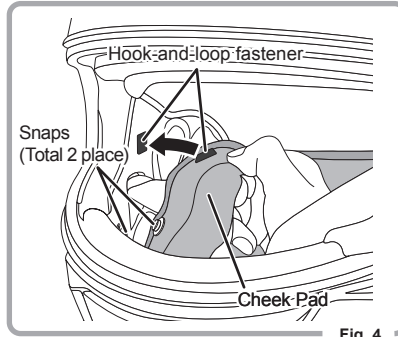

Fig. 4
- 5, Fasten the two snaps and Hook-and-loop fastener. (Fig. 4)